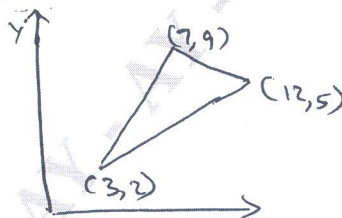

Fig.Q6(b)
- b. Determine the Jacobian of the transformations J for triangular element shown in Fig.Q6(b). Also find the area of triangle.